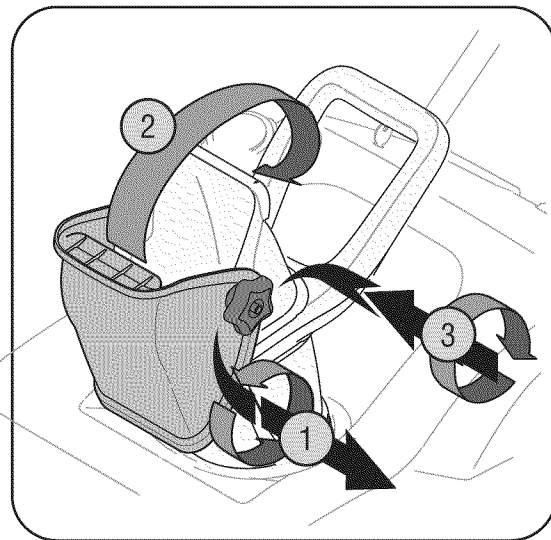

Figure 2
1. Turn the chute until the chute opening is facing straight ahead. Remove the wing knob, flat washer and carriage bolt from the lower chute. See Figure 2.